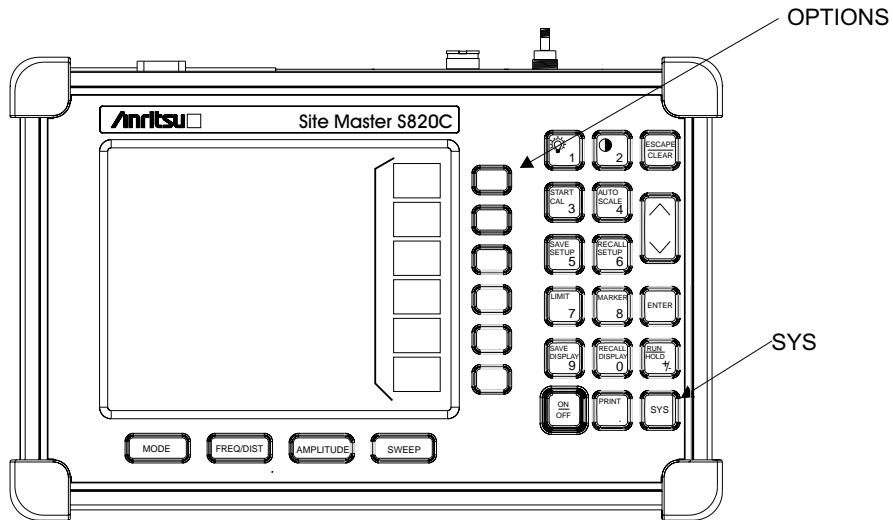

Figure 3-3. SYS Key and Options Soft Key
Step 3. Press the **SYS** key and the Options soft key (Figure 3-3) .